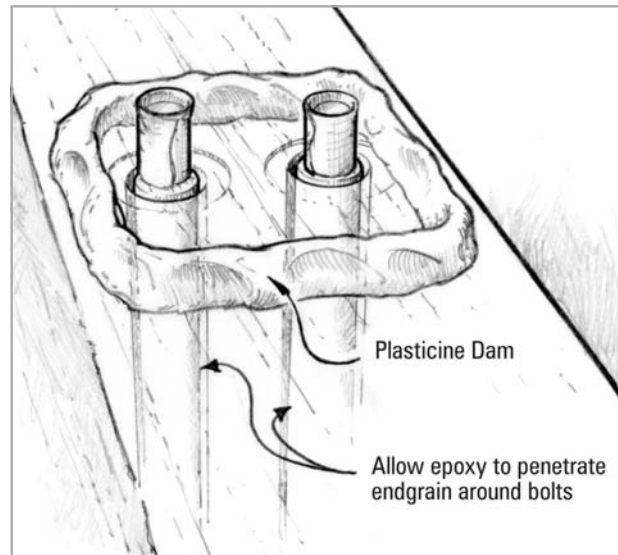

Figure 4-14 Build an epoxy reservoir around each keel bolt.
4. After blowing out the dust and shavings, wrap duct tape around the bolt threads and construct a 1/4" high dam around the bolt hole with plasticine (modeling clay) (*Figure 4-14*).